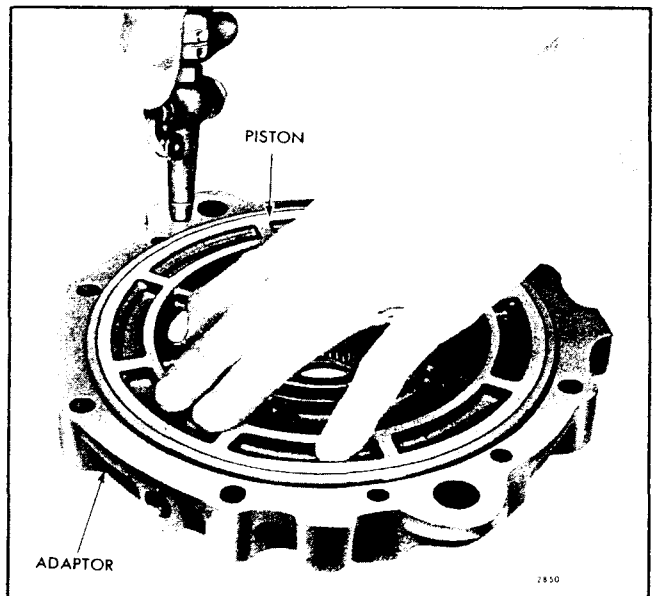

Fig. 22 - Removing Reverse Clutch Piston from Gear Housing Adaptor
- b. Place the nozzle of an air hose in the small oil hole at the top of the adaptor, then apply light air pressure behind the reverse clutch piston and force the piston up out of the adaptor as shown in Fig. 22.